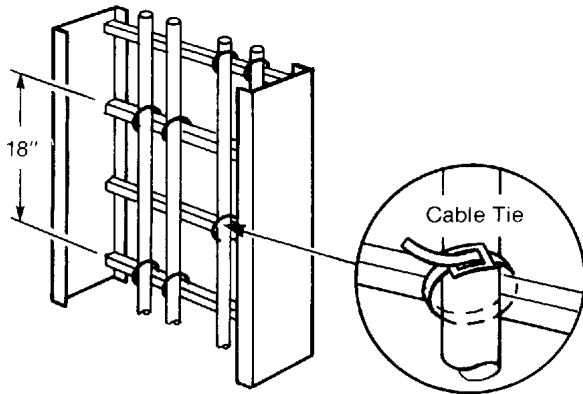

Figure 5.7
- a. Cables may be fastened to the cable tray by means of cable clamps or cable ties (See Figures 5.7 and 5.8). Generally, cables are fastened every 18 in. (450 mm) on vertical runs. Although not required by the NEC, single conductor cables can be fastened on horizontal runs to maintain spacing, prevent movement due to a fault current magnetic forces, and insure that the cable is confined within the cable fill area. When using cable clamps, the clamps should be sized correctly and only tightened enough to secure the cable without indenting the jacket. The same precaution should be observed with cable ties, and they should be applied with a pressure limiting device.